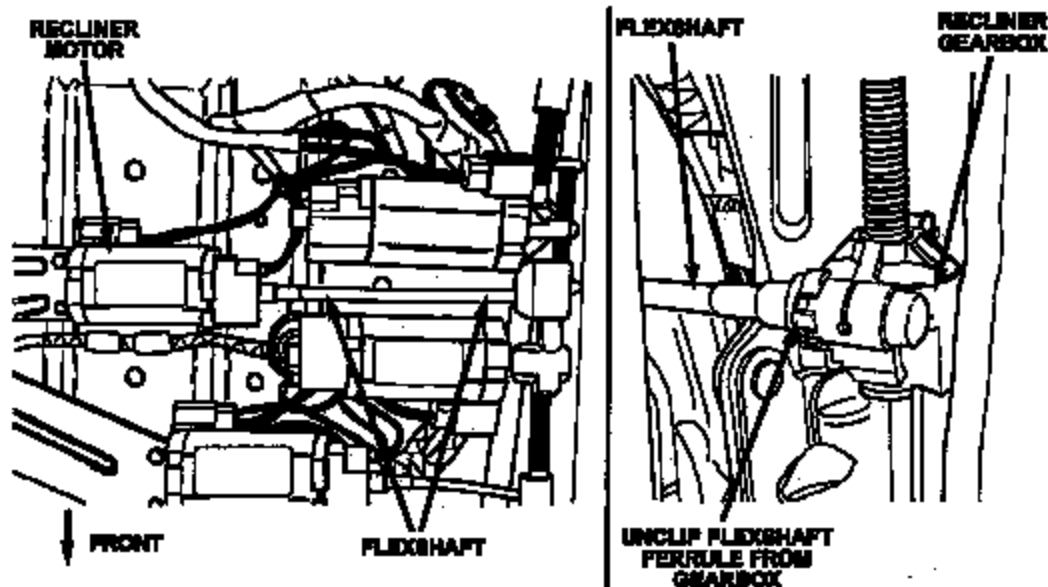

Figure 5
8. Remove the inboard recliner motor-to-gearbox flexshaft. To do this, remove the end of the flexshaft from the recliner motor while pulling on the flexshaft housing, slide the flexshaft out of its housing so that it disengages from the inboard recliner gearbox and then unclip the ferrule from the gearbox (Figure 5). Discard the flex shaft.